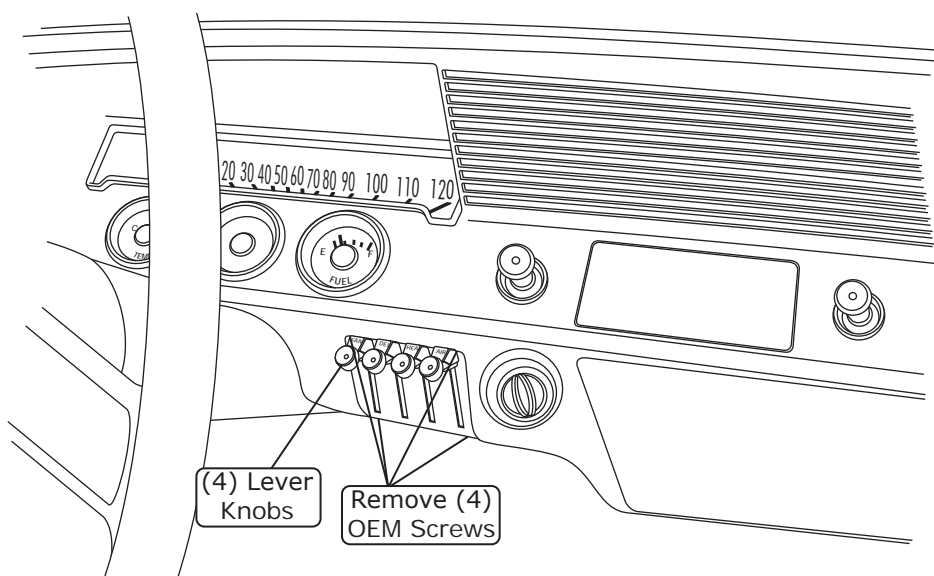

Figure 1
1. Remove the (4) lever knobs and the (4) mounting screws from the control panel (retain) (See Figure 1, below).